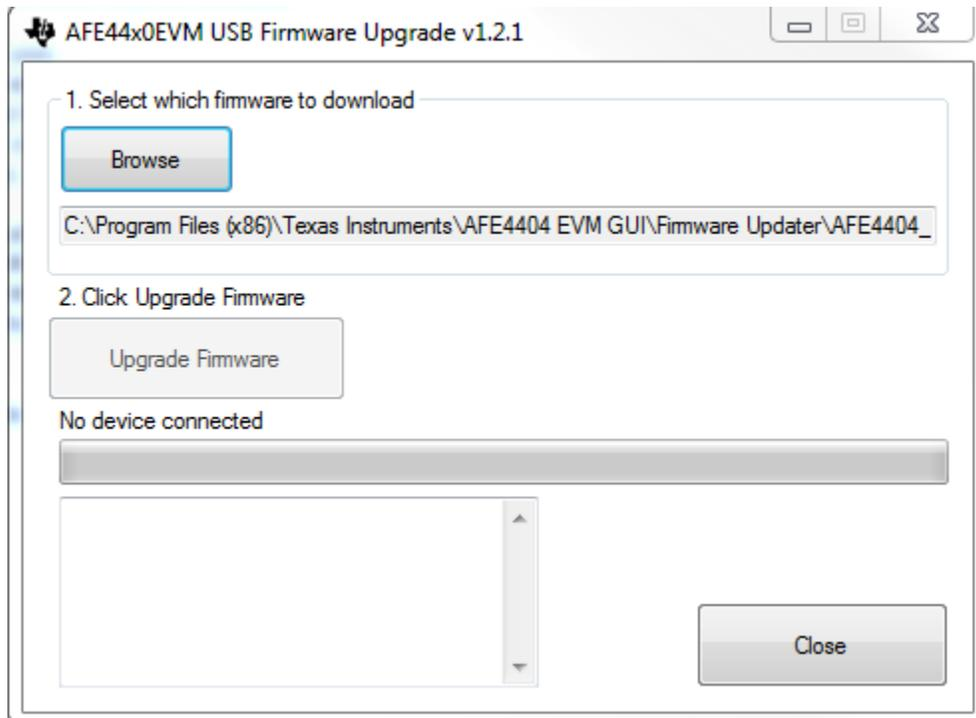

**Figure 42. PC Application Firmware Upgrade – 4**
- Once the device is programmed successfully, as shown in Figure 42, the device resets and reloads with the new firmware. Close the *Firmware Upgrade* application by clicking on the Close button and the PC GUI application automatically restarts the GUI after 4–5 seconds.